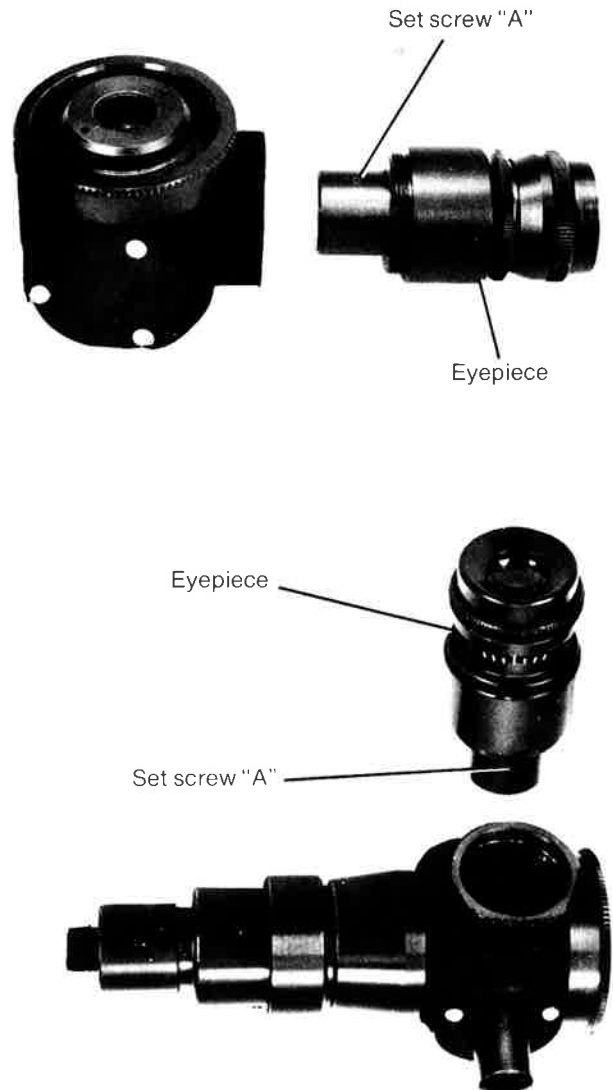

Figure A-7. 71 1241 Combination Auto-Collimation, Projection, Right-Angle Eyepiece
2. Loosen setscrew "A" (Figure A-7) with a 0.035 inch hexagon key.